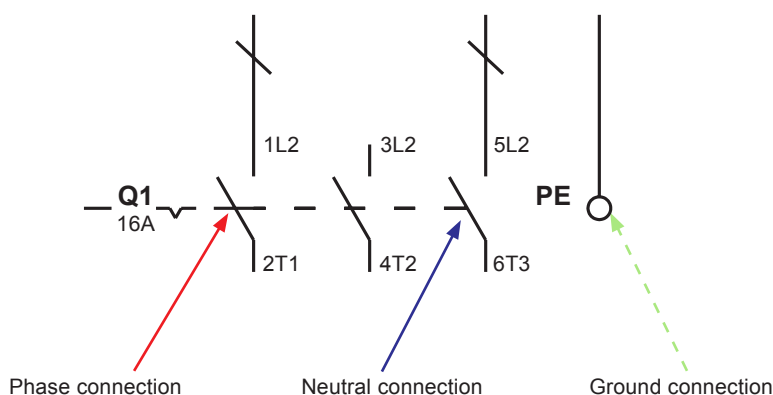

Fig. 2
Mains supply is directly connected to the primary side of the incoming control panel isolator (shown with the IP2X cover removed) and main earth terminal as shown in Figure 2.
- Check that all of the electrical connections are secure and as per the wiring diagram (Section 3.3, Figure 2).